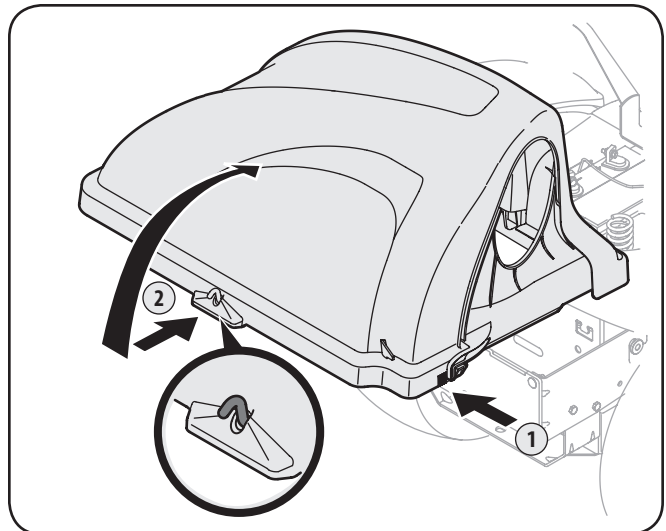

Figure 4-18
- Open Hood by pushing in on the rear, right-side tab with your right hand, as seen in 1 of Figure 4-18, and lifting the cover with your left hand in the center rear of the bagger cover, 2.